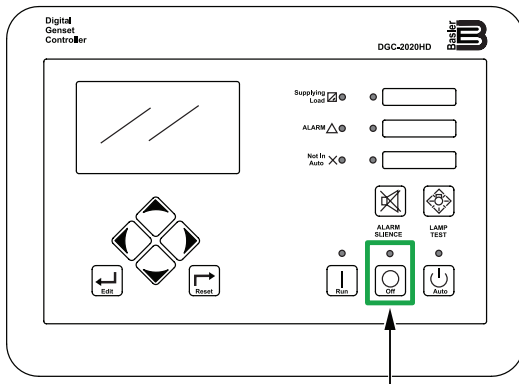

Figure 49. Digital Controller (OFF Button)
3. Press the **OFF button** on the digital controller (Figure 49) to stop the engine. The engine will stop after a 1-minute cool-down process.
2. Press the **OFF button** on the digital controller (Figure 49).
2. After the engine has completely stopped, press the **OFF button** on the digital controller (Figure 49) and place the **Control Power switch** in the **OFF** position (Figure 50).